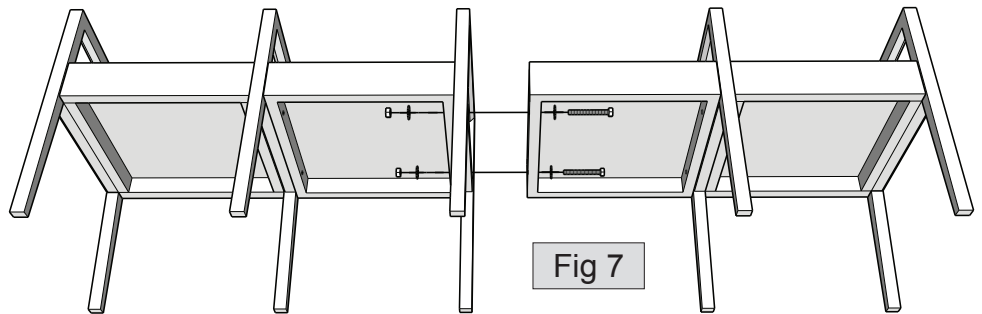

Fig 7
2. Connect left seats to right seats using 5" bolts, washers and nuts, as shown in figure 7. Once both bolts are started, tighten securely.